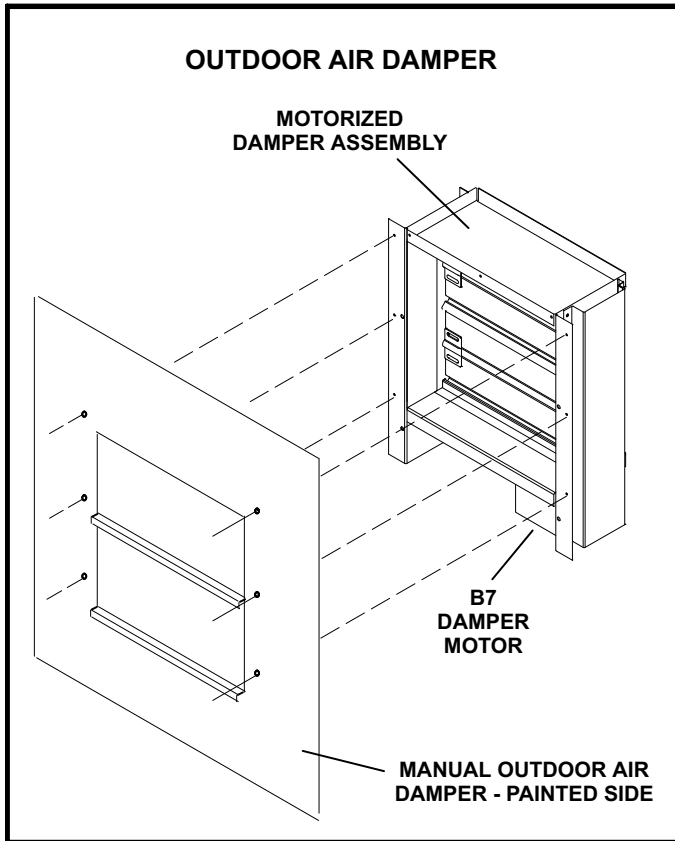

FIGURE 17
C1DAMP11A-1 is available for all units. Both sets include the outdoor air hood. A motorized kit (K1DAMP21A-1) can be ordered separately for all unit sizes. The dampers may be manually or motor (M) operated to allow up to 25 percent outside air into the system at all times (see figure 17). Washable filter supplied with the outdoor air dampers can